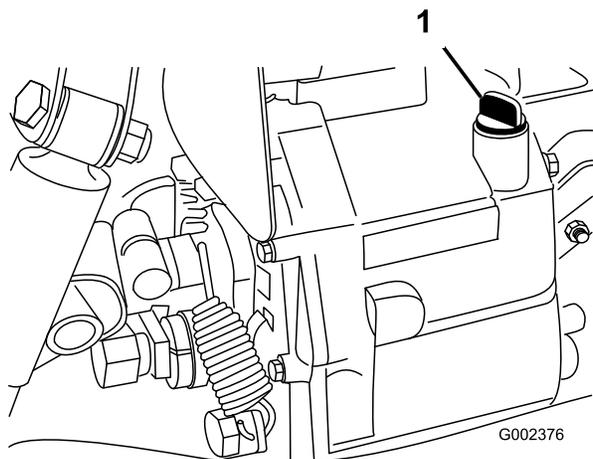

Figure 12
- Clean the area around the dipstick (Figure 12).